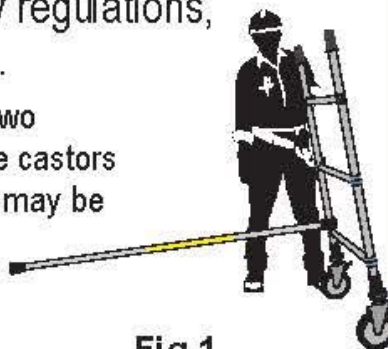

Fig.1
2. Attach at least one horizontal brace (yellow) to the frame upright just above the first rung with the snap hook facing outwards. The frame is now self-supporting – See Fig.1.